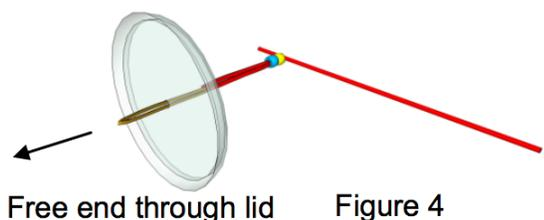

Figure 4
4. Insert the free end of the rubber bands into the hole in the first lid starting from the topside of the lid (groove is on the bottom side). Pull the rubber band through until the last bead is snug against the lid. The 2 beads and the straw secured by the small piece of rubber band will sit on top of the lid. See figures 4 and 5.